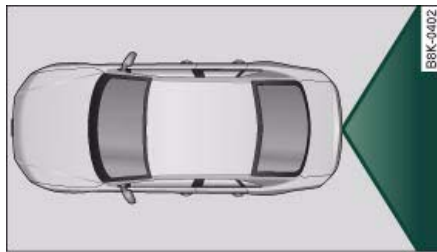
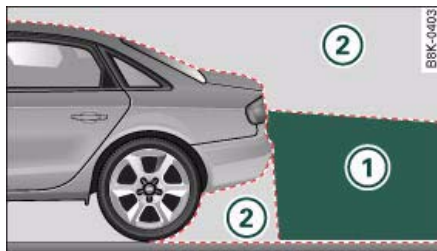

Fig. 189 Viewed from above: Area covered by the reversing camera
Fig. 190 Side view: ①: Area covered by the reversing camera; ②: area NOT covered by the reversing camera
The reversing camera covers approximately the area depicted in ⇒ fig. 189 and ⇒ fig. 190 ①. This is the area you will see in the picture on the MMI display. Orientation lines and colour markings are projected onto the picture to help you when parking or manoeuvring in tight spaces. Objects out of range of the camera in area ② do not appear in the picture on the MMI display. ■